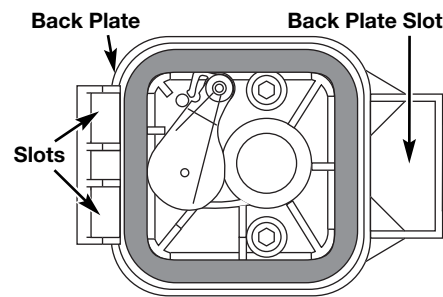

Fig. 30
6. Replace the filter (Fig. 30).
7. Reinstall the air filter cover. Position the hooks on the left side of the air filter cover into the slots at the left side of the back plate (Fig. 30).